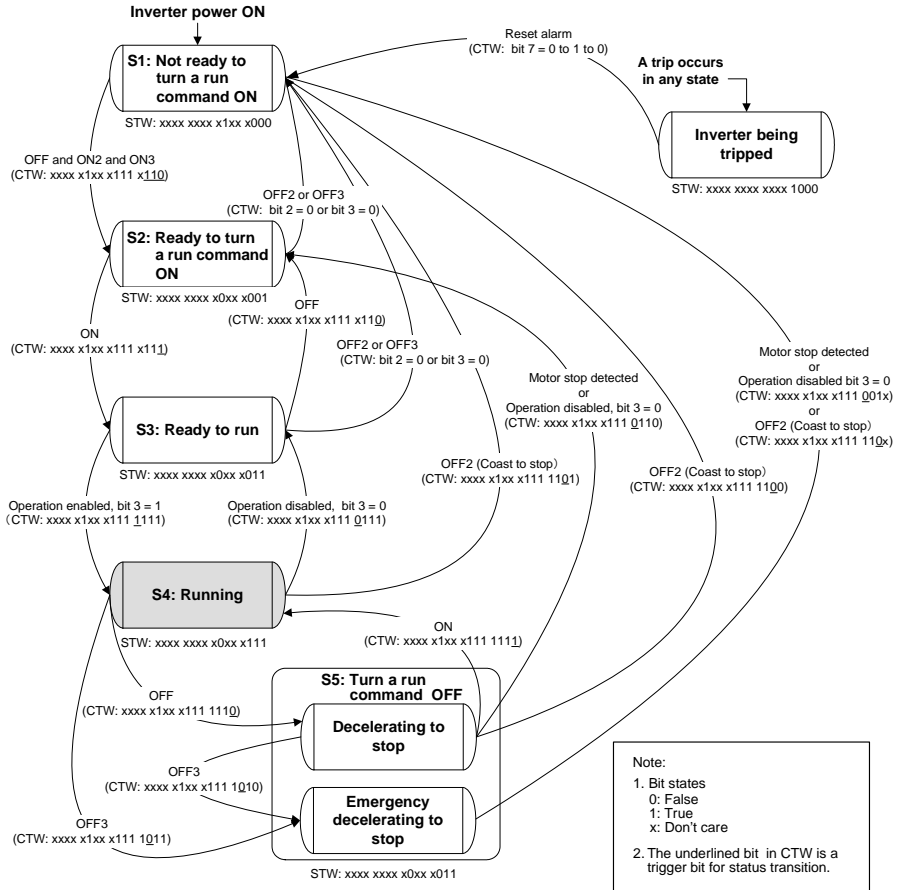

Figure 8.2 Status Transition Diagram of PROFIdrive Profile
For the status transition condition of the PROFIdrive profile, refer to Section (2) "STW (status word)" and Figure 8.2 on the following pages.
STW indicates the status transition of the PROFIdrive. The status transition details are shown in Figure 8.2.
Figure 8.2 illustrates a status transition diagram of the PROFIdrive profile.
Note In Figure 8.2, to simplify the description, values of Bit 4 to Bit 6 and Bit 10 in CTW are always "1." If any one of these bit values is not "1," the inverter will not enter the running state even if the status transition properly proceeds.